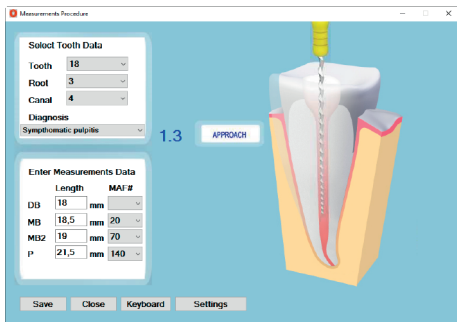

Fig. 20
10. Slowly insert the endodontic file (9) into the root canal. When the end of the file is approximately 2,9 mm or less from the apical constriction, you will see it appearing on the root canal model (Fig. 20). You will also hear a slow beeping signal. Continue moving the endodontic file inwards and observe the distance on the display. The display will automatically switch to zoom mode as the distance decreases.